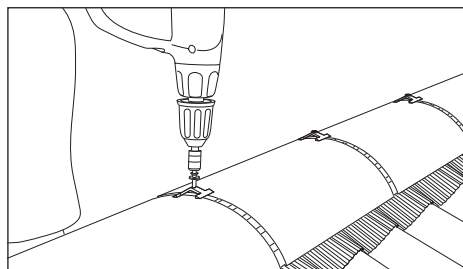

Fig. 9
- 9 Push ridge tile firmly into position and secure ridge union assembly to ridge batten by fixing screw through hole in union clamp using a pozidrive No.2 screw bit (Fig. 9).